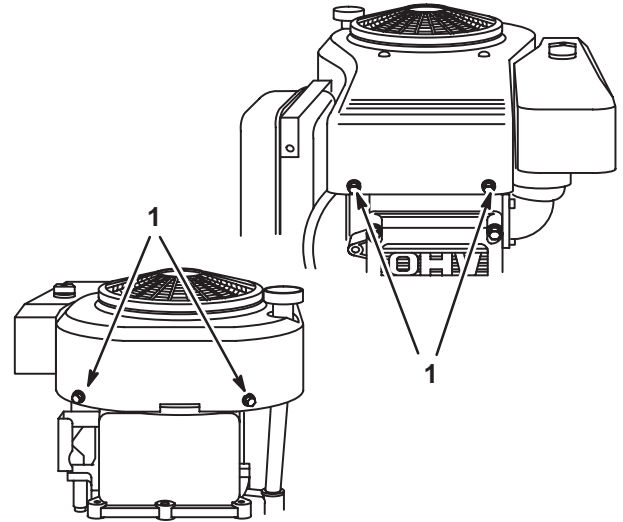

Fig. 19 – Installing Outer Blower Housing
5. Install outer blower housing and screws and torque screws to 85 in. lbs., (10.0Nm), Fig. 19.